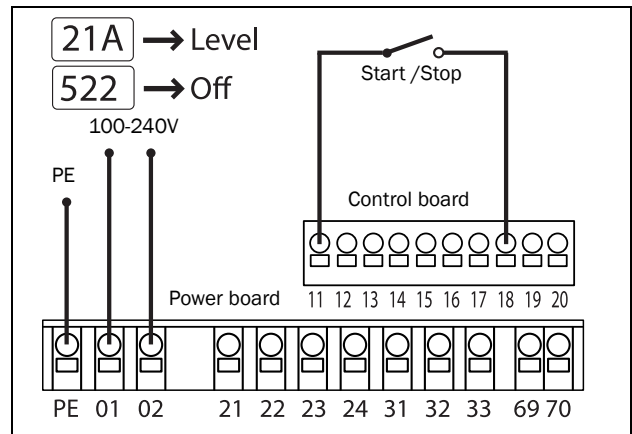

Fig. 19 Minimum wiring for remote controlled start using level control.
The control supply voltage is connected to the terminals marked N and L on the power board (Fig. 19).
The minimum wiring for a remote controlled start is shown in Fig. 19 below. In this example the motor/softstarter will run with forward rotation. For other wiring examples, see section 3.4, page 16.
12. Connect digital and analogue inputs/outputs as in Fig. 19.